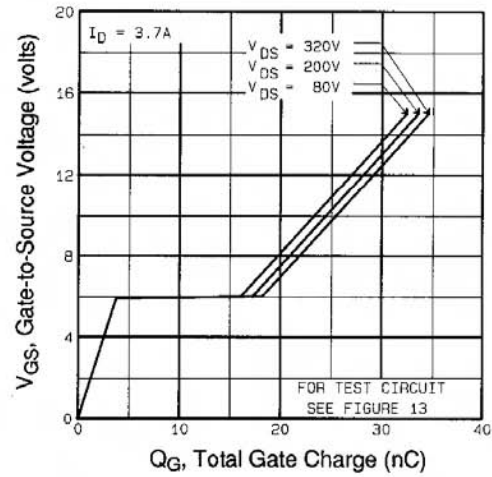

Fig 6. Typical Gate Charge Vs. Gate-to-Source Voltage
| Q_{gd} | Gate-to-Drain ("Miller") Charge | — | — | 22 | | $V_{GS}=10V$ See Fig. 6 and 13 ④ |